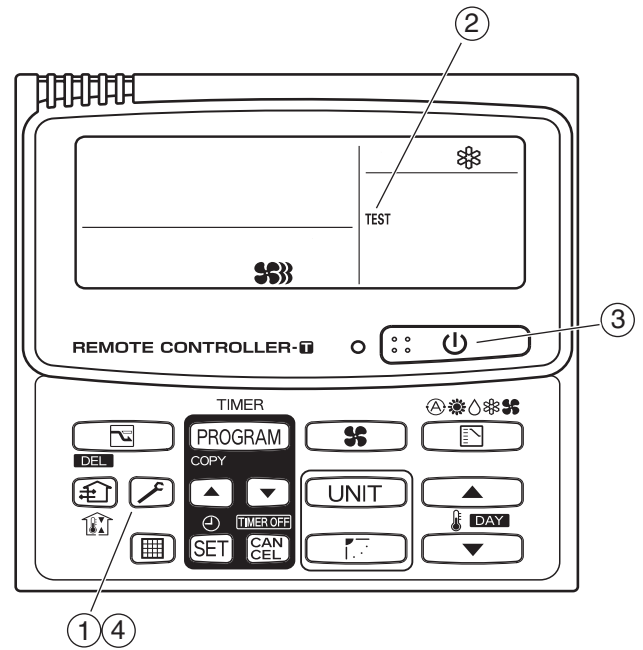

Fig. 2-7
- ① Press and hold the  button for 4 seconds or longer.
- ② “Test” appears on the remote controller LCD display (Fig. 2-7).
- ③ Start operation.
- ④ Press the  button to return to normal remote controller display.